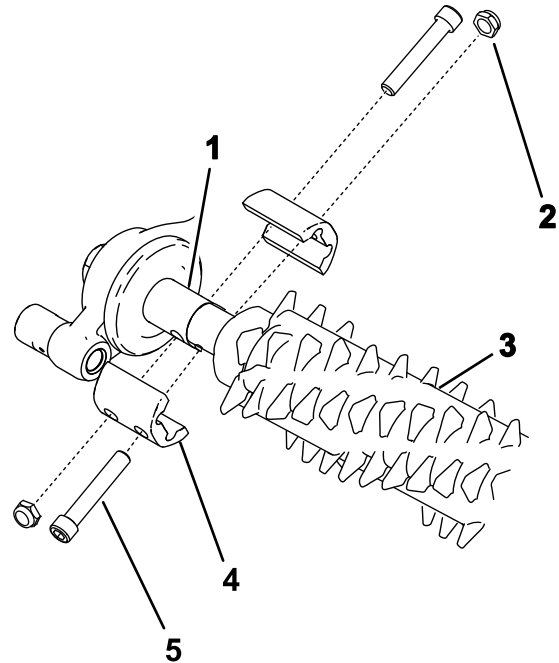

Figure 25
- Line up the grooming reel assembly with the groomer drive box and idler assembly (Figure 25).
- Tighten the bolts that hold the groomer assembly in place as shown in Figure 25; torque the bolts to 5 to 7 N·m (46 to 60 in-lb).